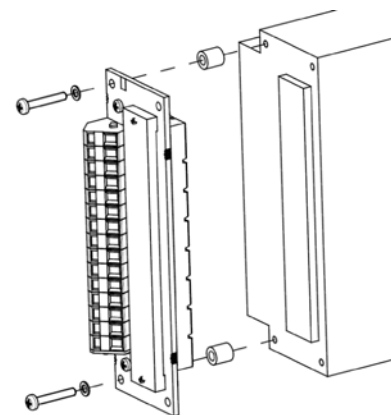

Fig. 47
- Cage clamp adapter HZZ00144-G; see fig. 47